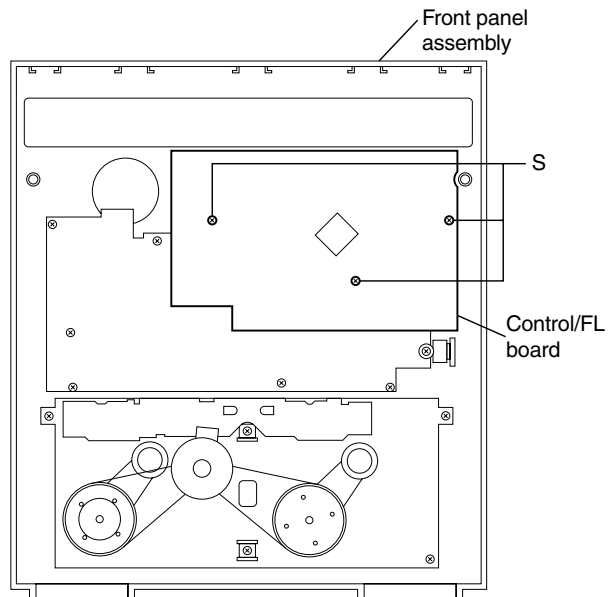

Fig.26
**(See Fig.26)**
## ■ Removing the key switch board and ACTIVE BASS EX. switch board (See Fig.26 to 29)